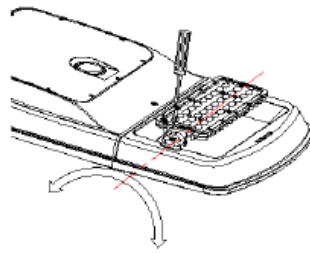

Fig 2
5. Loosen screw on LED panel and adjust beam angle, then tighten to fix (fig. 2)